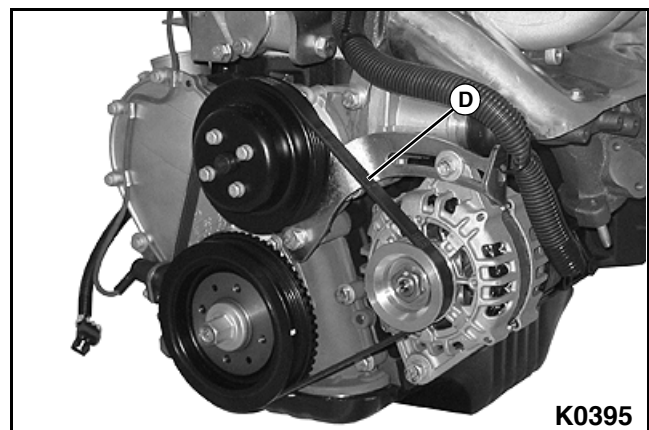

Figure 5-30
4. Set drive belt tension to specification. See Figure 5-30.
- Apply specified pressure to the drive belt at its midpoint. At the same time, measure the amount of deflection of the drive belt at its midpoint (D). Deflection should be within specification.